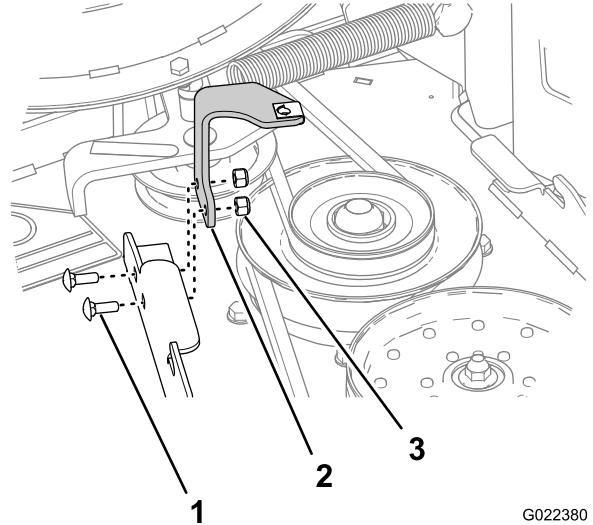

Figure 8
1. Remove the 2 carriage bolts (1/4 x 3/4 inch) and 2 locknuts (1/4 inch) that secures the belt-cover bracket to the forward flange of the mower deck (Figure 8).
2. Remove the belt-cover bracket from the mower deck (Figure 8).